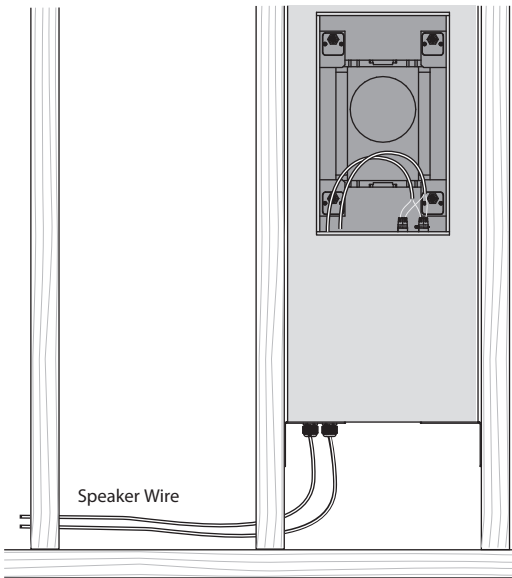

Fig. 4. Speaker Wire Installation to Back Can
2. Install the speaker wire in through one of the cable glands, and leave enough slack to make the connections (Fig. 4). Tighten the cable gland, and tie down the speaker cable to prevent it moving and rattling in operation. Make sure that the speaker cable does not come into contact with nails or screws that might damage the insulation. A second cable gland is provided to allow a second speaker cable run to be installed.